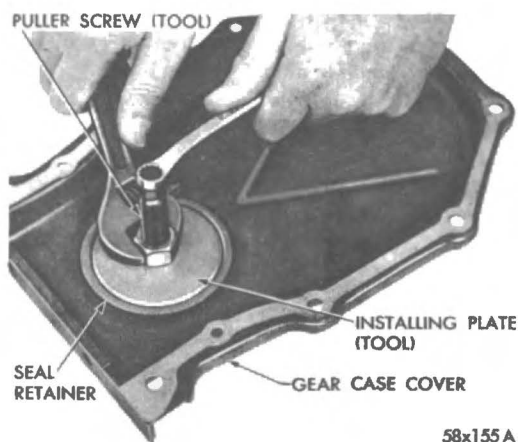

Fig. 18 Installing New Seal Tool CA-3506
(4) Install the flat washer and nut on puller screw, hold screw and tighten the nut (Fig. 18).